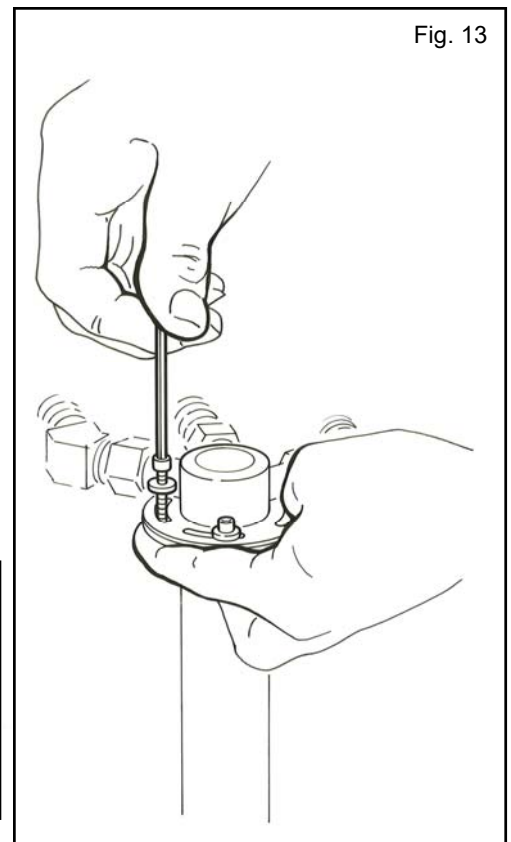

Fig. 13
22. Insert the five mounting bolts, with washers, through the slots in the warmer flange, and use a hex (Allen) wrench to "pop" them through the gasket. See Fig. 13.